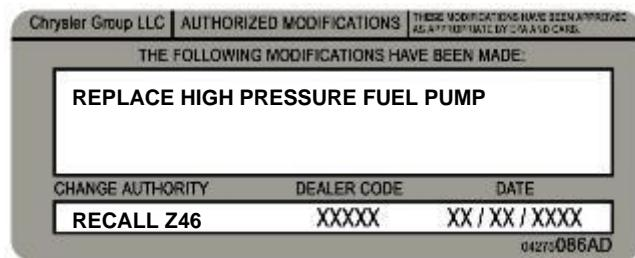

Figure 52 – Authorized Modifications Label
1. Type or print (with a ballpoint pen) the necessary information shown in (Figure 52) onto the authorized modifications Label.